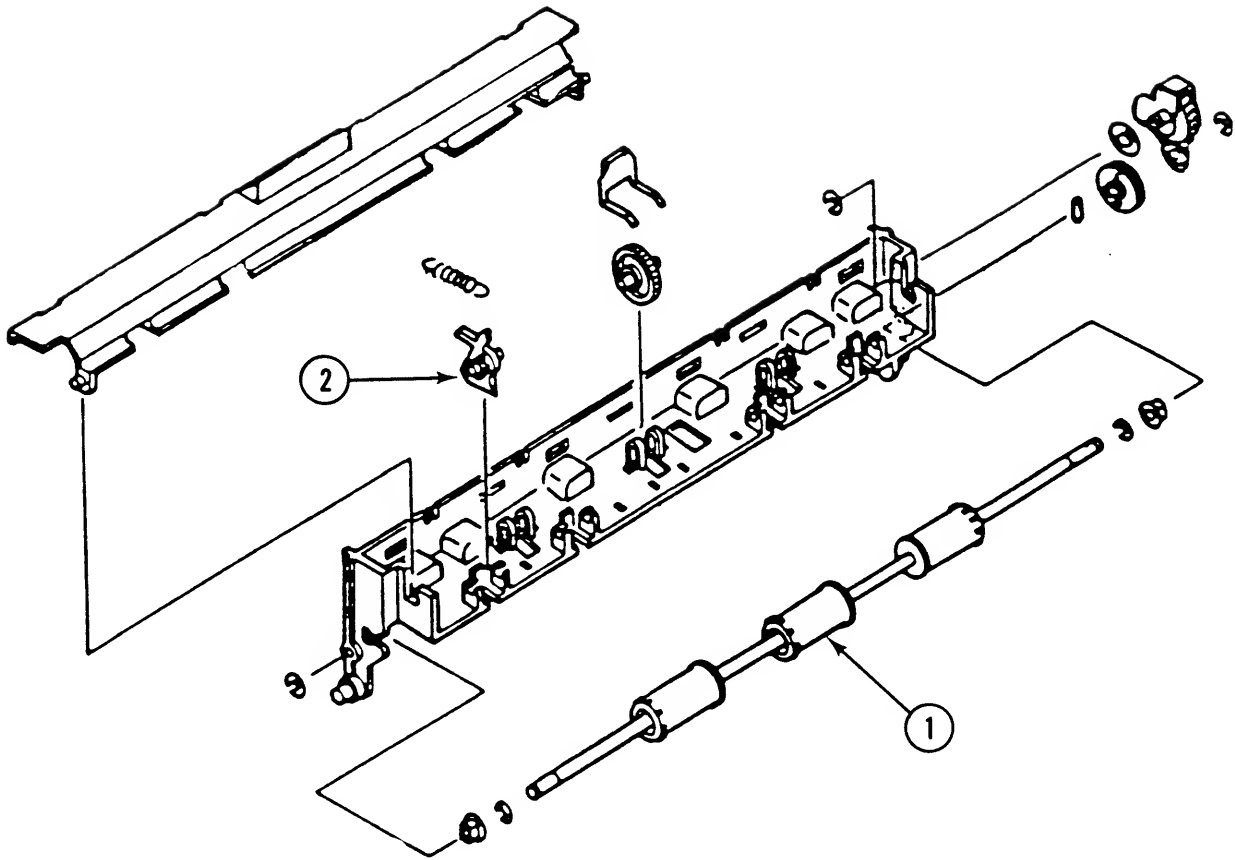

FIGURE 17
□ FIXING DELIVERY ASSEMBLY (Figure 17)